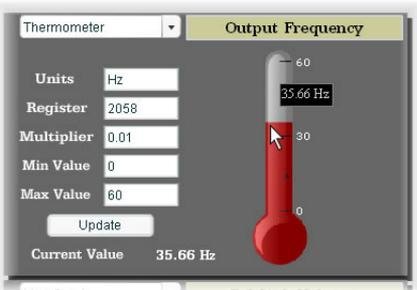

Figure 62: Thermometer
**Thermometer:** Refer to Figure 62. This type of meter implements the universally-identifiable thermometer display format. Hovering the mouse pointer over the red “mercury” portion of the graph pops up a tooltip which displays the current indicated value and units.